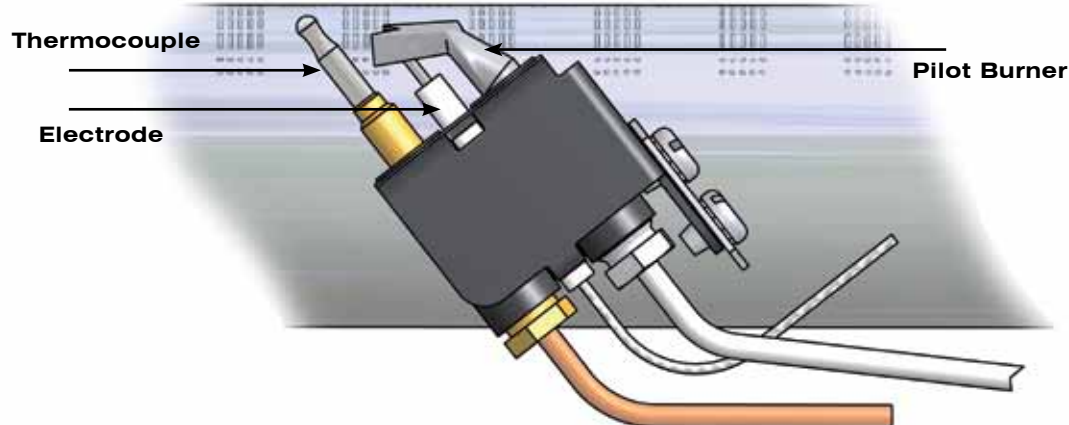

FIGURE 3. PILOT BURNER ASSEMBLY
- 7.3.7 Ensure that the pilot flame envelops thermocouple tip (refer Figure 3).